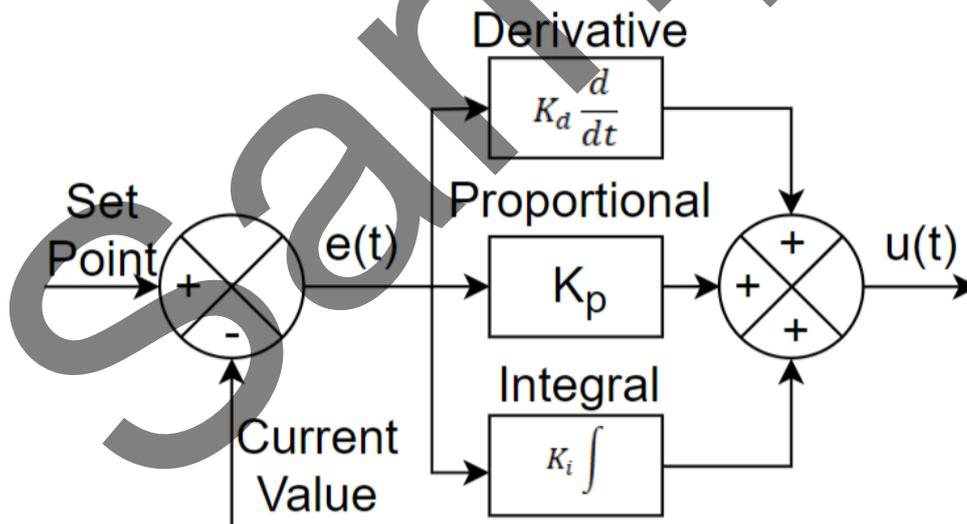

Fig.3.8: Parallel algorithm block diagram
**Parallel Algorithm** – The parallel algorithm has already been discussed in Workbook 2, the block diagram of the system is shown in Fig.3.8.